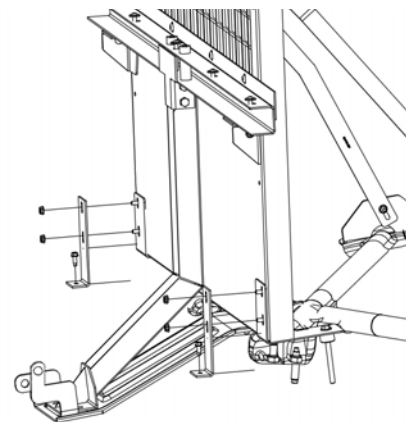

Fig. 5
- C. Next, place the two (3OSB4715-04) bottom foot brackets at the lower section of either end of the barrier. The two nuts previously installed will need to be removed and reinstalled with the foot brackets on each side. (See Fig. 5)